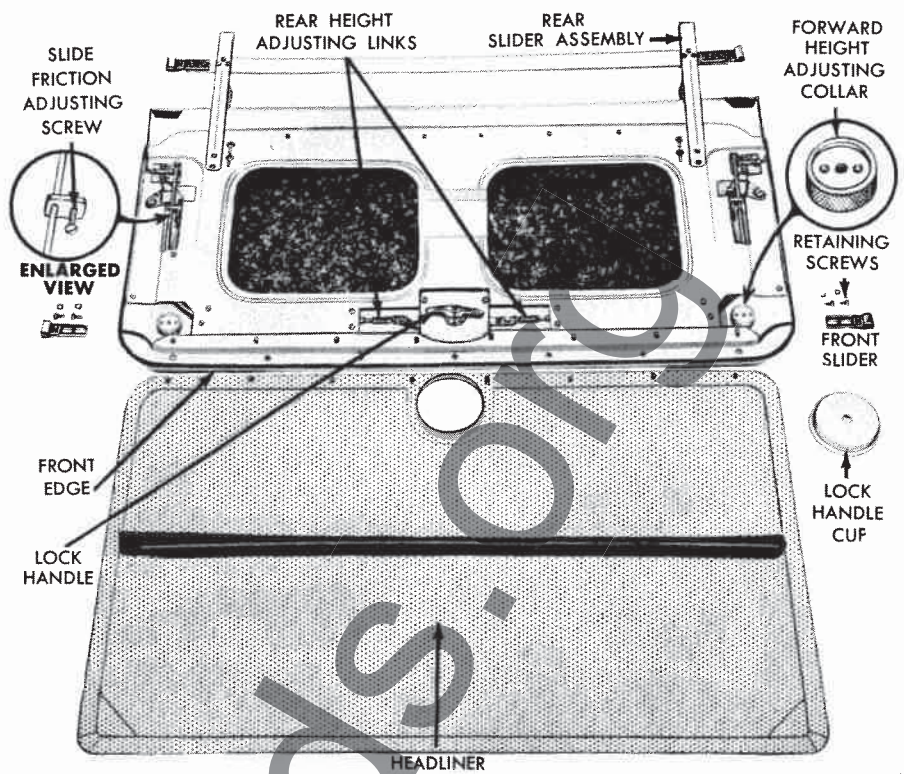

Fig. 12 - Sliding Roof Panel and Headliner
7. Adjust the two slide friction adjusting screws (Fig. 12), so that the panel will remain in any position when the lock handle is turned.